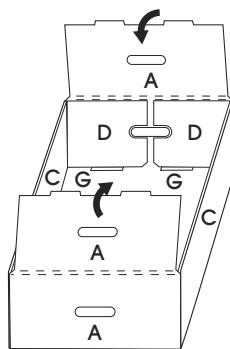

Figure 6
6. Fold side panels with handles (A) over side flaps (D), locking the side flap tab (A) into slots (G). (See Figure 6)